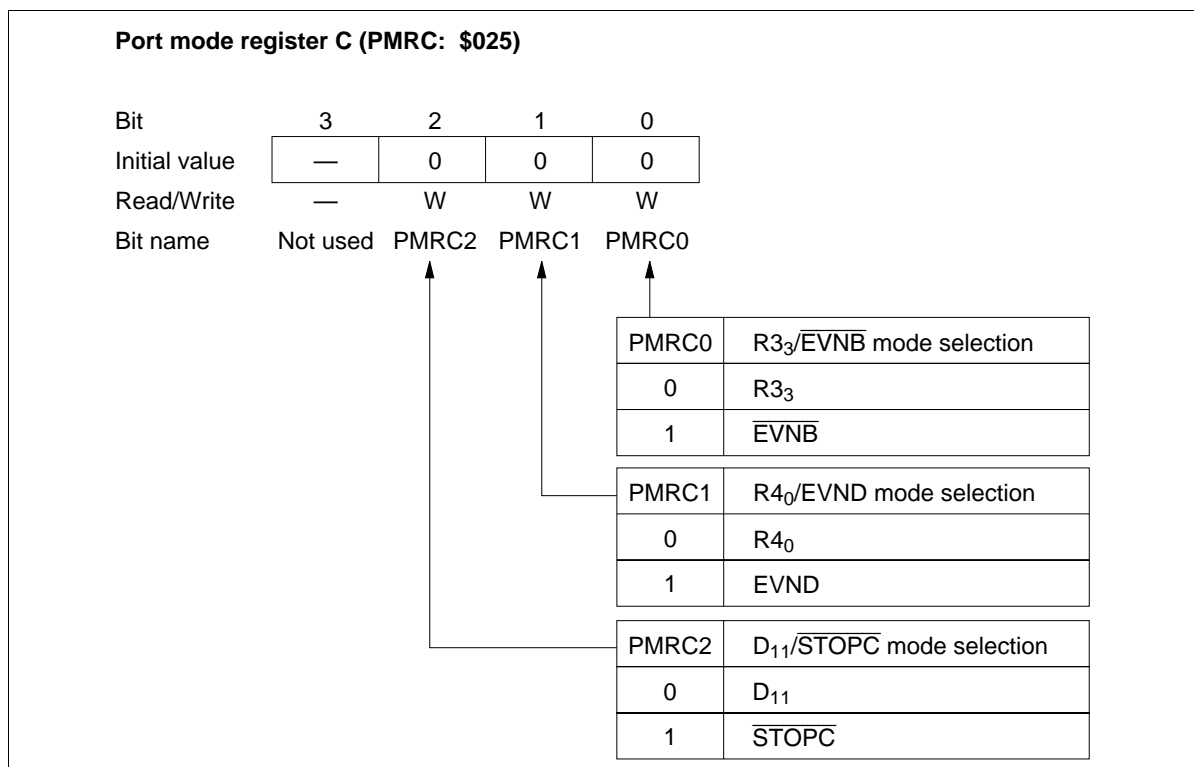

Figure 51 Port Mode Register C (PMRC)
- Port mode register C (PMRC: \$025): Write-only register that selects the $R3_3/\overline{EVNB}$ pin function (figure 51). It is reset to \$0 by MCU reset.